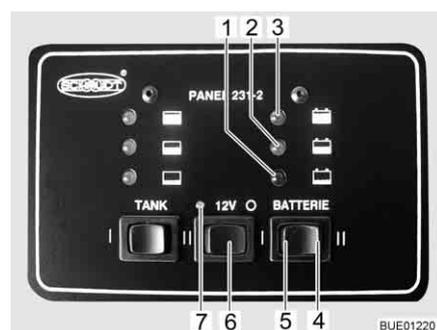

Fig. 107 Panel
**12 V main switch** The 12 V main switch (Fig. 107,6) switches the 12 V power supply of the living area on and off.
**Switching on:** ■ Push "12 V" rocker switch (Fig. 107,6) to the left: The 12 V living area power supply is switched on. The 12 V indicator lamp (Fig. 107,7) lights up in green.
**Switching off:** ■ Push "12 V" rocker switch (Fig. 107,6) to the right "O": The 12 V living area power supply is switched off. The 12 V indicator lamp (Fig. 107,7) goes off.
- Press the left "BATTERY" rocker switch "I" (Fig. 107,5): This displays the charging condition of the living area battery.
The right half of the "BATTERIE" "II" rocker switch (Fig. 107,4) has no function.
The red indicator lamp (Fig. 107,1) with the symbol "
The yellow indicator lamp (Fig. 107,2) with the symbol "
The green indicator lamp (Fig. 107,3) with the symbol "